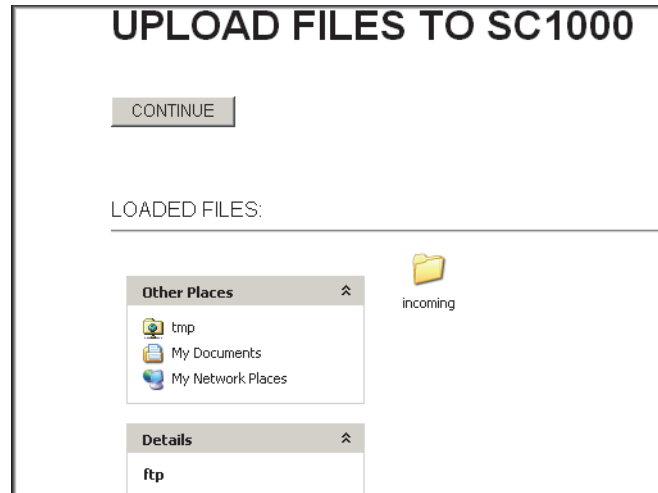

Figure 13 Transfer files
11. Copy the files and paste into the **incoming** directory in the web browser (Figure 13).